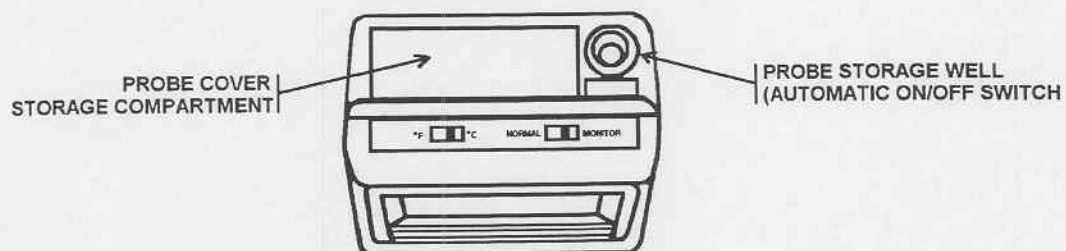

Figure 2-2. Probe storage well.
- b. Insert the probe shaft into the probe storage well (fig 2-2).